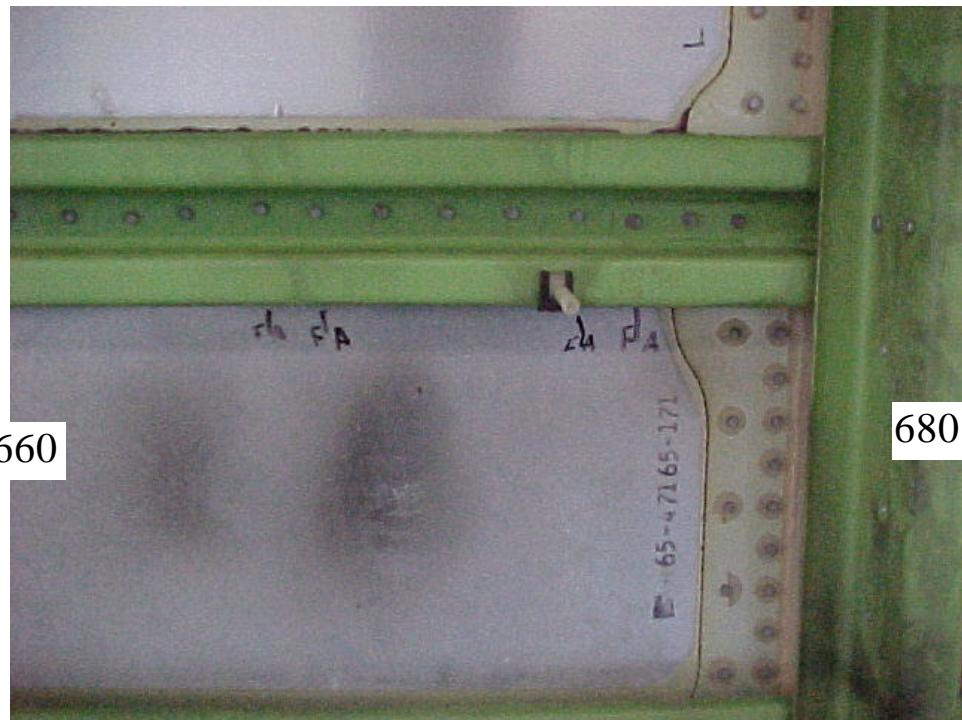

Figure C-11. Photograph of indication locations found during DVI and MFEC inspections. Stringer 4R, BS 660 to BS 680.
- FIGURE C-11 Photograph of indication locations found during DVI and MFEC inspections.